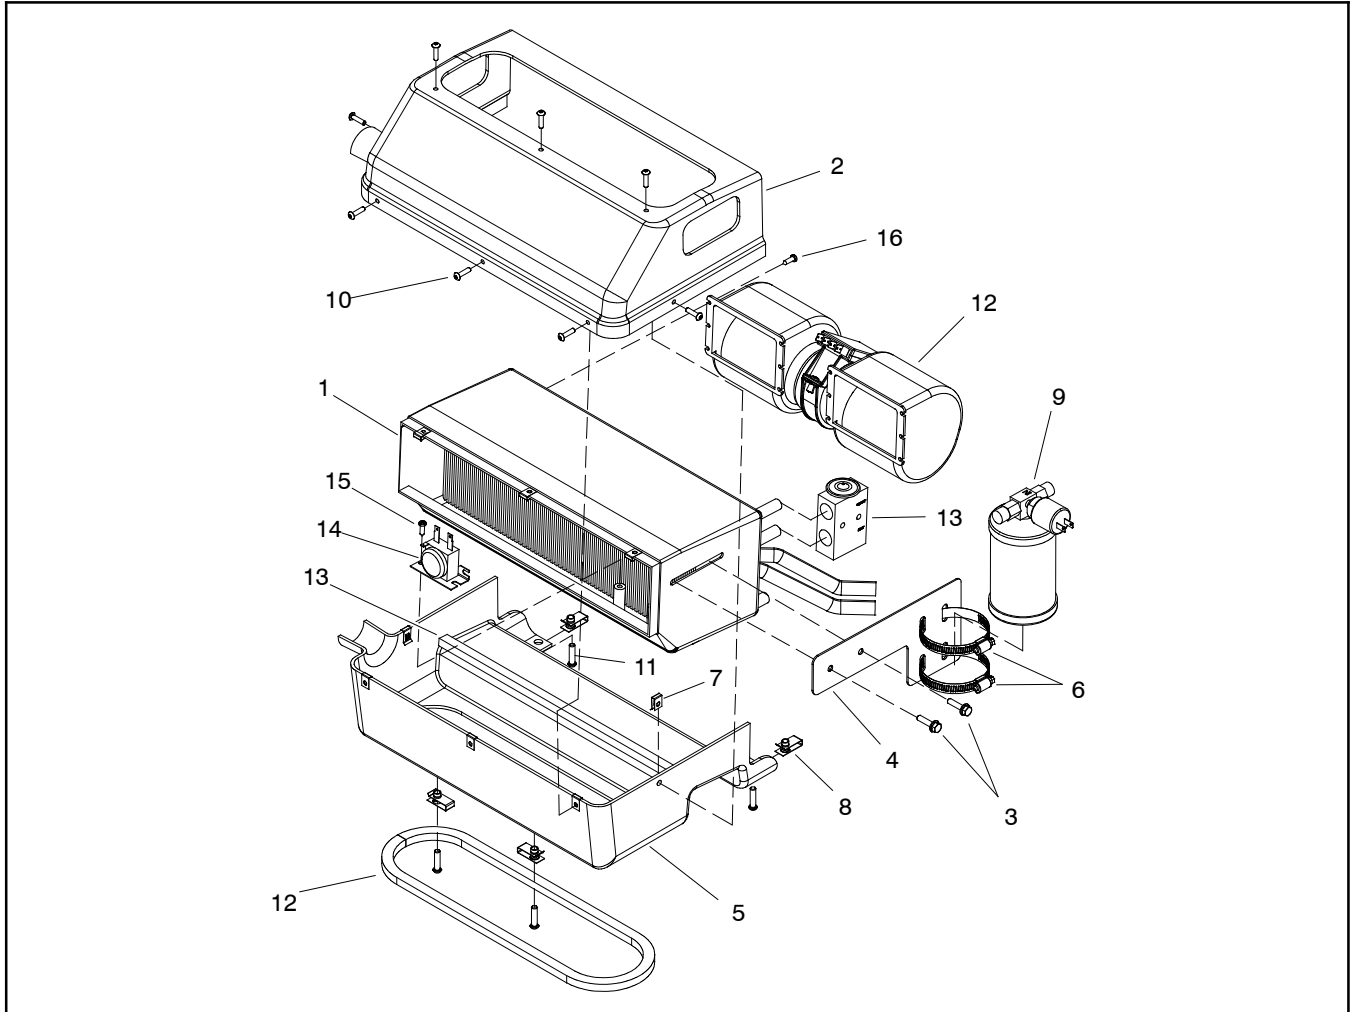

Figure 7
Removal (Fig. 7)
9. Disassemble heater/evaporator assembly using Fig. 7 as a guide.
Installation (Fig. 7)
1. Assemble heater/evaporator assembly using Fig. 7 as a guide. Make sure that expansion valve is covered with insulating tape to prevent condensation issues.